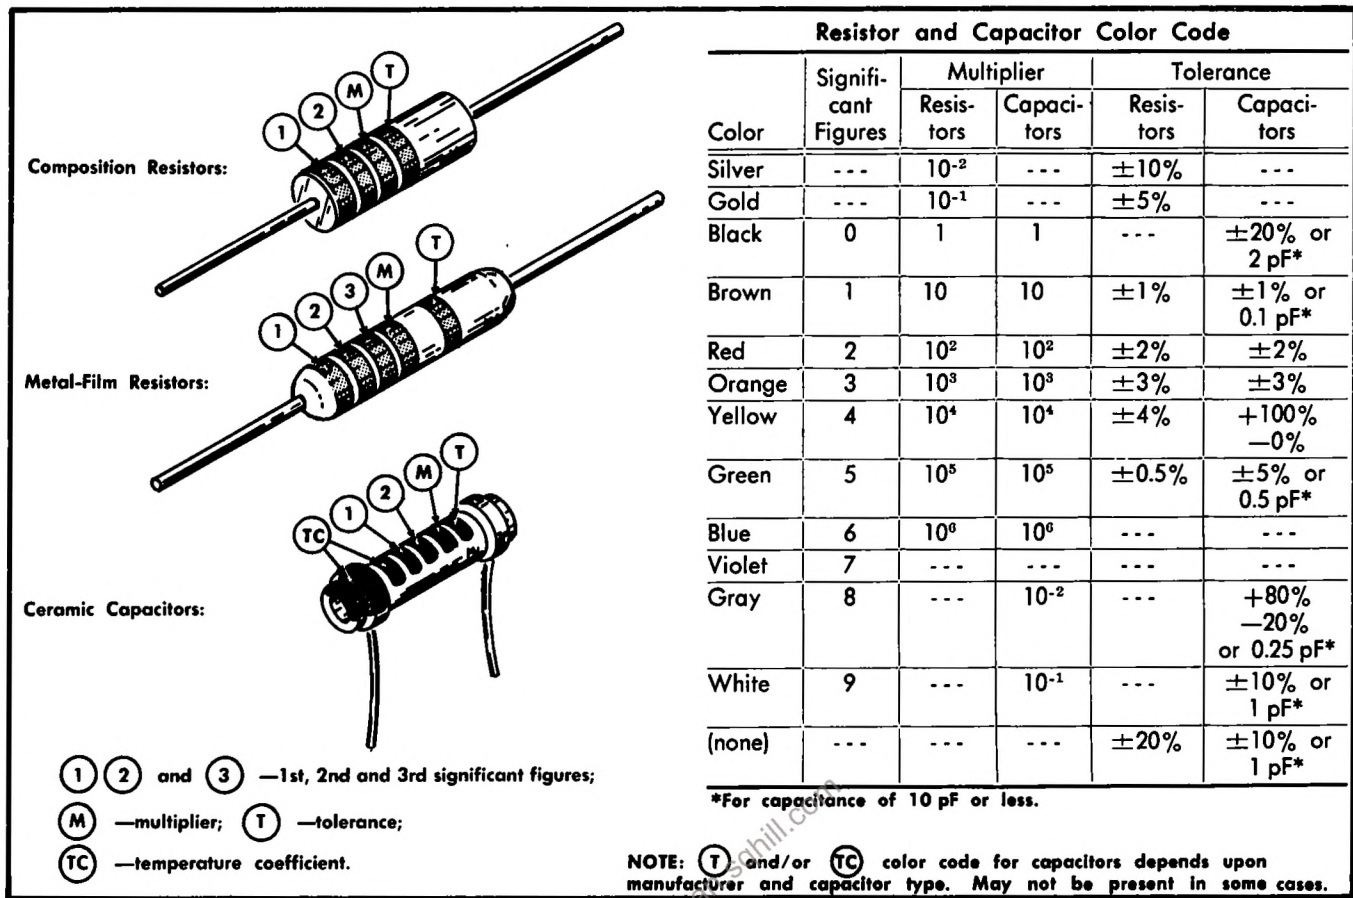

Fig. 5-4. Color code for resistors and ceramic capacitors.
**Capacitor Marking.** The capacitance values of common disc capacitors and small electrolytics are marked on the side of the component body. The white ceramic capacitors used in the 7603 are color-coded in picofarads using a modified EIA code (see Fig. 5-4).